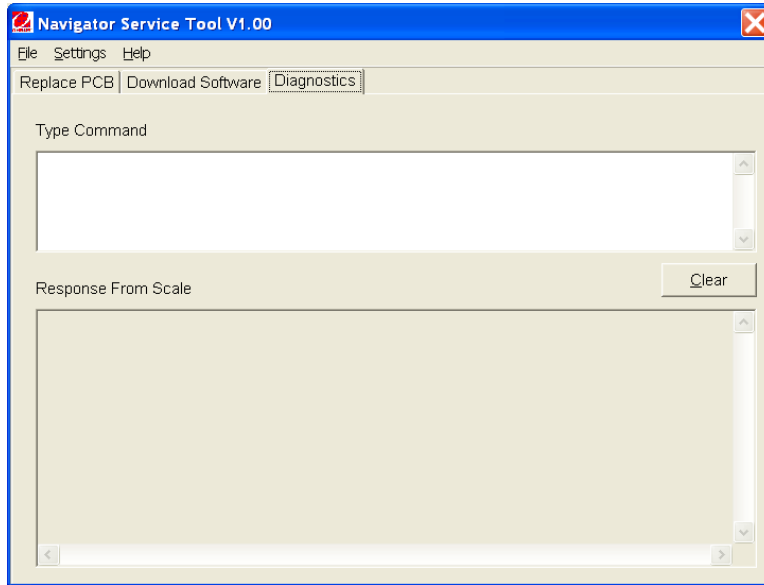

Figure C-3. Diagnostic screen
9. Click the **Diagnostics** tab to test the communications. (See Figure C-3.)